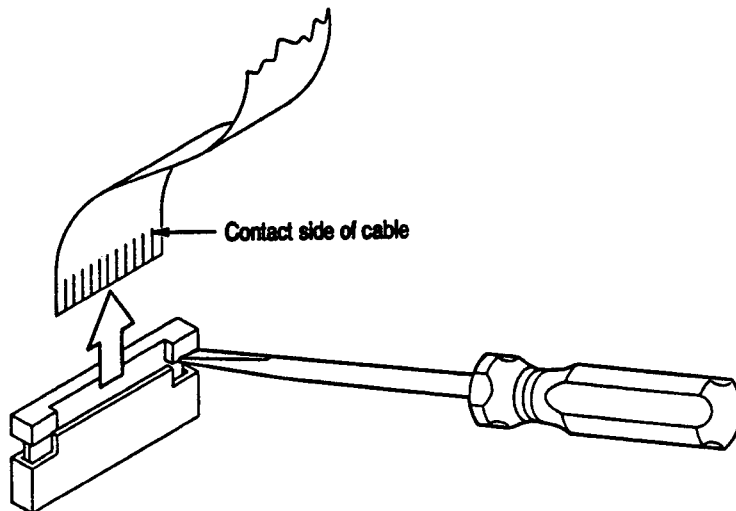

Figure 2: Opening the display cable connector
- c. Using the $\frac{1}{8}$ inch flat-bladed screwdriver, carefully open the display-cable connector as shown in Figure 2.